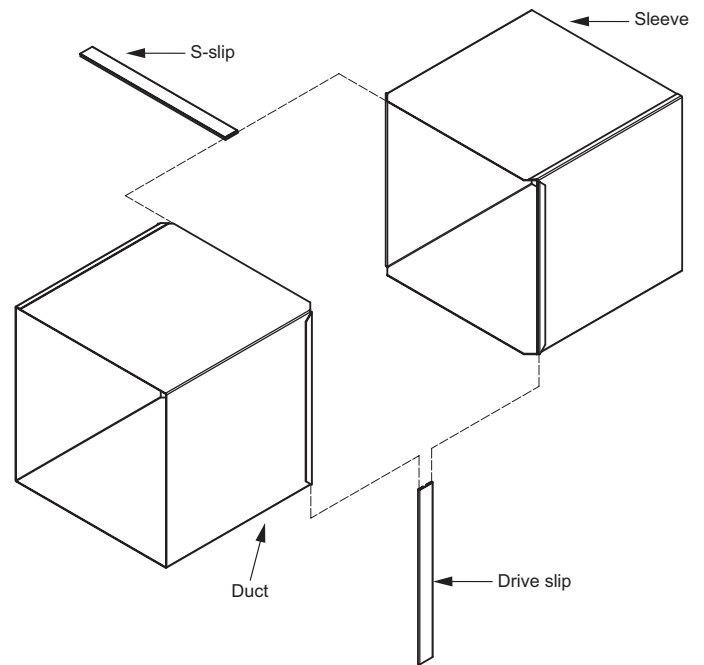

Figure 1
C&S dampers may be supplied with a factory hemmed 20 gauge (1) sleeve for use with standard drive slip and S-slip connections. Sleeves and duct may be field hemmed by folding back the vertical sides a maximum of 1/2" (13) to accommodate a 1" (25) wide drive slip (as shown in Figure 1). Standard drive slips are UL tested breakaway connections on dampers 20" (508) high and less.